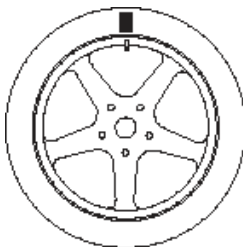

Fig. F5.4 - Marking of the valve position on the tyre
3. Bring the valve to the 12 o'clock position, mark the valve position on the tyre (see figure F5.4);
8. Rotate the wheel until all position arrow LEDs light up and then mark the 12 o'clock position as shown in figure F5.4;